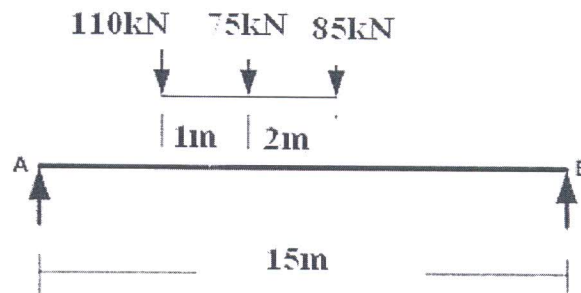

Fig. 12
- (b) Find absolute maximum bending moment under leading load 85 kN for the girder shown in Fig. 12. [8]